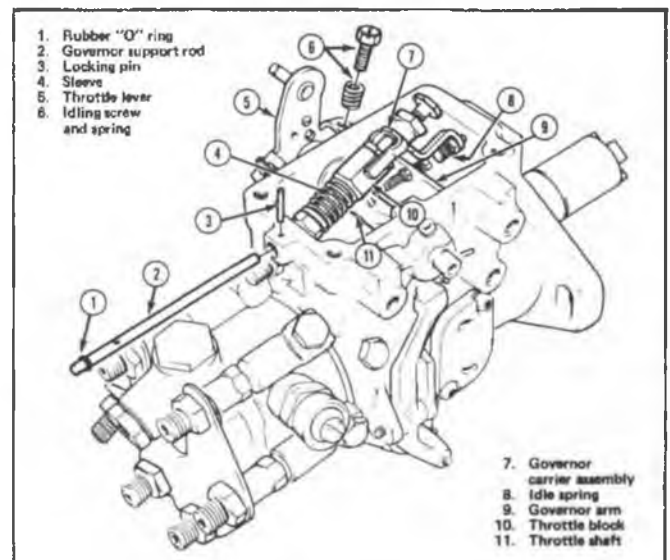

Fig. 3-15 CAV Pump Governor Carrier Assembly
8. Remove the locking (roll) pin from the pump housing and remove the governor support rod. Discard the support rod "O" ring (Fig. 3-15).
9. Tilt the governor carrier assembly by lifting the end nearest the drive end of the pump and ease the carrier clear of the pump housing (Fig. 3-15).
3. Ensure that both the maximum speed screw (13) and the idling speed screw (2) are fitted to the throttle lever.
4. Using protection sleeve J-33097, fit a new rubber "O" ring (1) into the groove on the shaft nearest the lever.
5. To avoid damage to the throttle shaft bore when fitting the rubber "O" ring (6), partially insert the throttle shaft through the side of the housing to the point where the large thrust washer (3) can be fitted, followed by the small thrust washer (5).
6. Using protection tool J-33098, which is comprised of a cap and sleeve, fit a new rubber "O" ring (6) over the tapered end of the cap.
7. Insert the cap, tapered end first, into the sleeve and slide the "O" ring (6) on to the outside diameter of the sleeve and detach the cap. Slide the sleeve with the rubber "O" ring over the end of the shaft.
8. Ease the shaft towards the opposite side of the pump until the end of the shaft is supported, then push the rubber "O" ring (6) into the groove in the shaft.
10. Push the shaft fully into engagement with the housing and secure the shaft by inserting the "E" type circlip (4) into the recess in the shaft abutting the thrust washer (3). If a new throttle shaft has been installed, it will be necessary to check the end play of the shaft and adjust by selective fitting of the thrust washer(s) if necessary. Using feeler gages, the throttle shaft should be between a maximum of 0.3 mm (0.012") and a minimum of 0.15 mm (0.006").
13. Rotate the throttle shaft lever forward to the drive end (idling) of the pump. Tilt the governor car carrier assembly to abut the idle spring with the 1 leaf spring on the governor control arm. Lower the carrier into the housing and engage the lug on the underside of the throttle block with the cut away notch in the throttle shaft (Fig. 3-15).
15. Insert the plain end of the rod through the rear governor housing and into the sleeve of the carrier assembly. Fully install the support rod into the housing and install a new locking pin (Fig. 3-15).